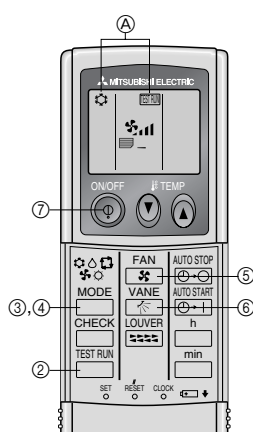

Fig. 7-1
7.2.1. Using wireless remote controller (Fig. 7-1)
- ① Turn on the power to the unit at least 12 hours before the test run.
- ② Press the **TEST RUN** button twice continuously.